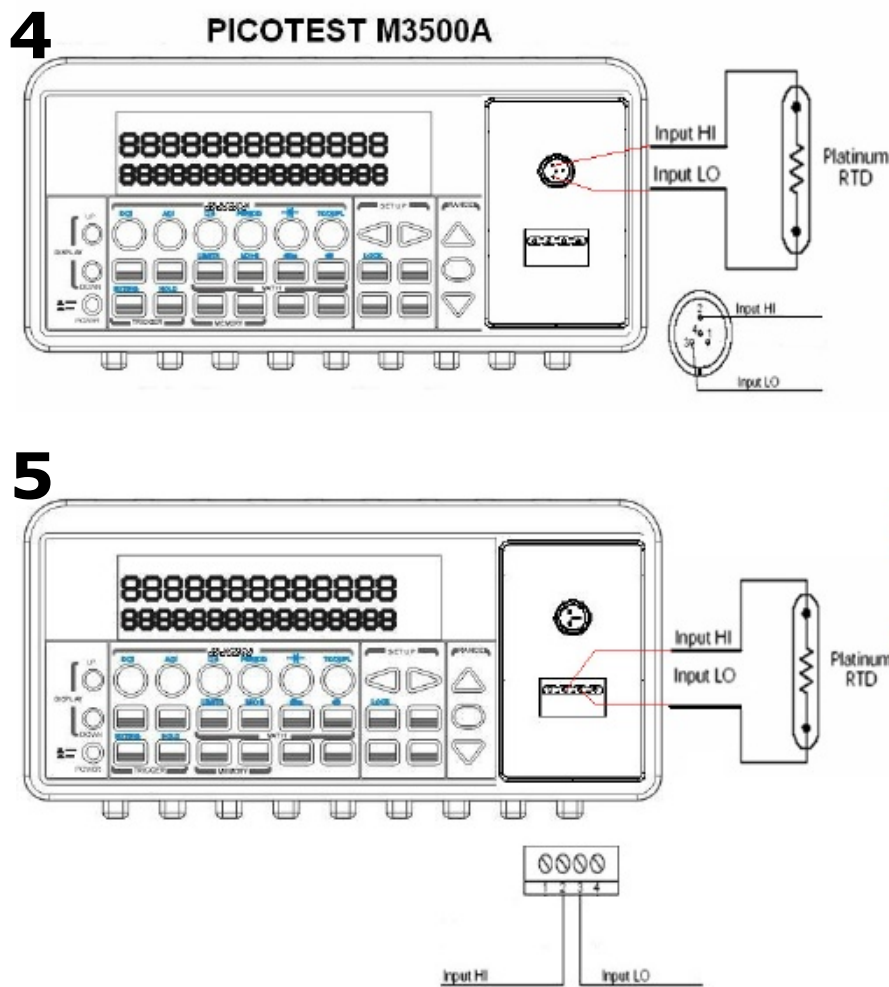

Figure 3-14
- ① Use terminals switch to select front terminals.
- ② Insert a specified adapter into the front terminals. Connect the low thermal patch leads to the adapter as shown in **Figure 3-14**.
- ③ Configure sensor type, transducer (2W) and unit using CONFIG + TEMP and ◀ or ▶. When ready, press ENTER button. For more information, refer to the section 4.1.8.
- ④ Press TEMP button.
- ⑤ Place RTD in the desired position and take the reading on the display.